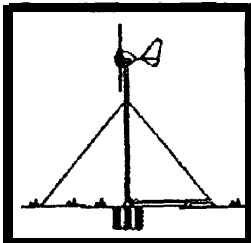

Figure 7
b) Tilting tower with gin poles supported by guy ropes (Figure 7).